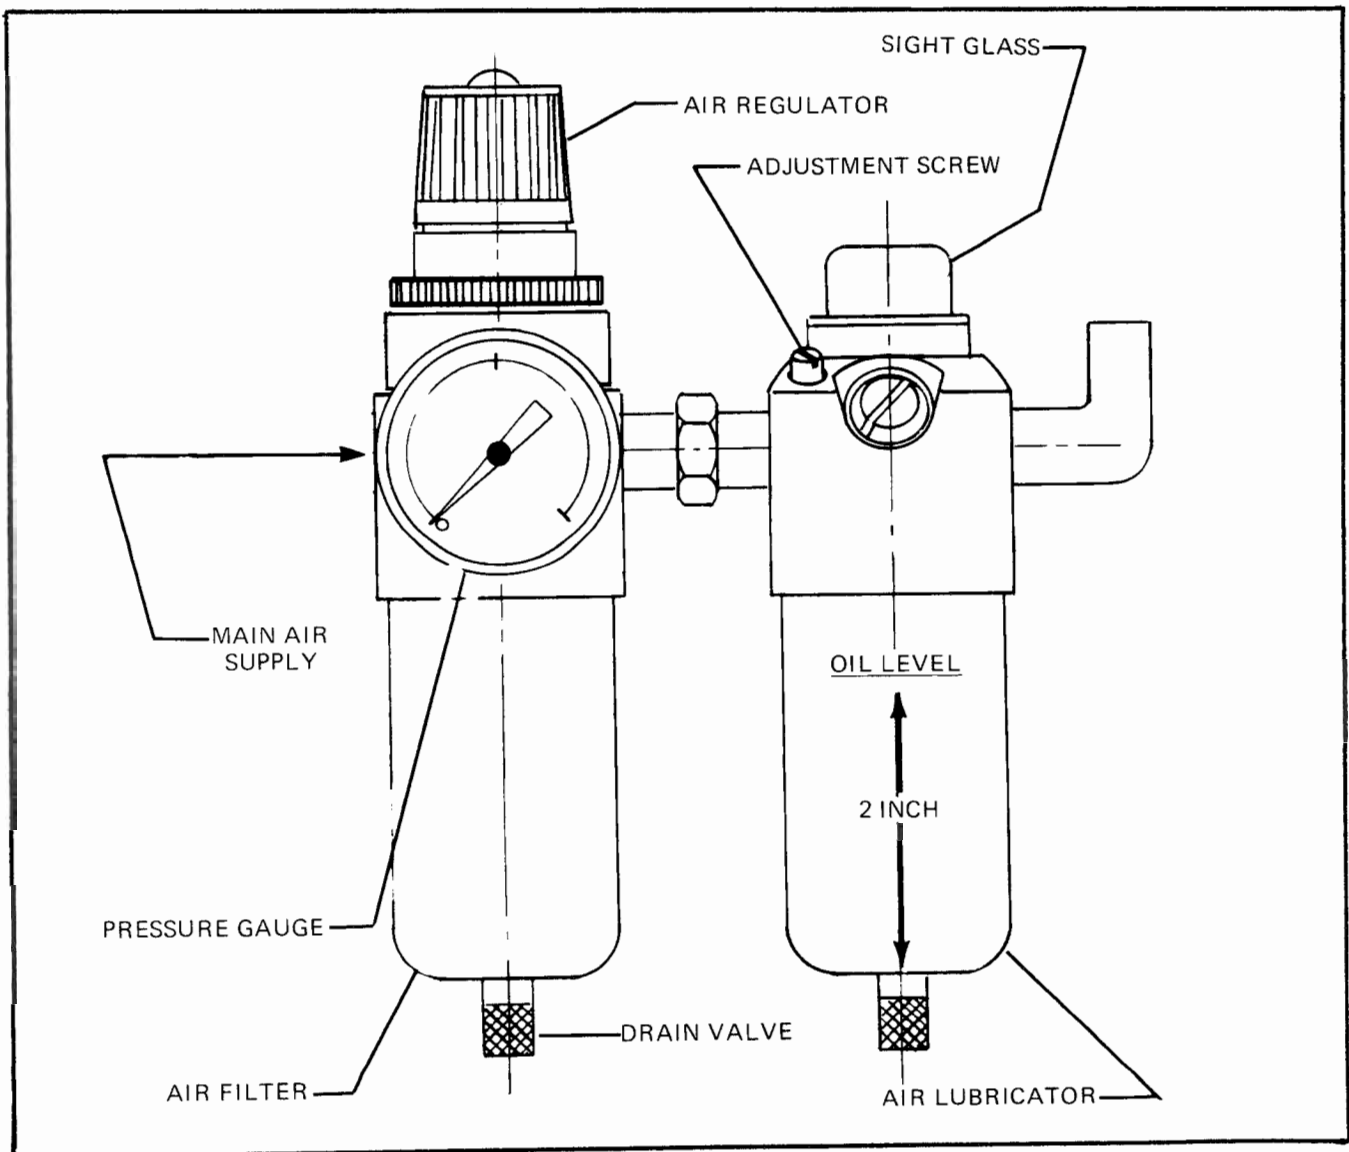

FIGURE 4 AIR CONTROL UNIT - SET UP
- D. Remove lubricator bowl and fill with U.S.P. Heavy Mineral Oil or Non-Detergent SAE #5 or #10 oil (2 inch depth) as noted in Figure 4.
- E. The lubricator oil metering adjustment screw, Figure 4, has been preset - open 1/4 turn. If excessive oil becomes visible at the flow control mufflers, close adjustment screw clockwise 1/8 turn. If lubricator does not use oil, open adjustment screw counter clockwise 1/8 turn.